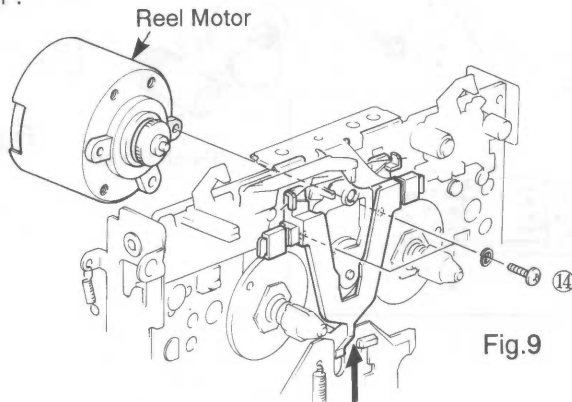

Fig.9
- b. Remove 2 screw ( ⑭ ) in Fig. 9 then remove the Reel Motor .